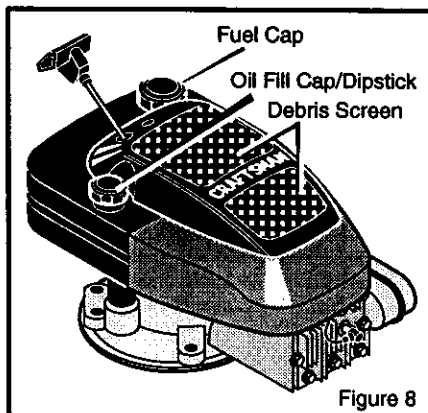

Figure 8
2. Remove the oil fill cap/dipstick shown in Figure 8.
1. Before each use, remove debris from the debris screen shown in Figure 8. Debris can cause the engine to overheat. Wipe the debris screen with a cloth or paper towel.